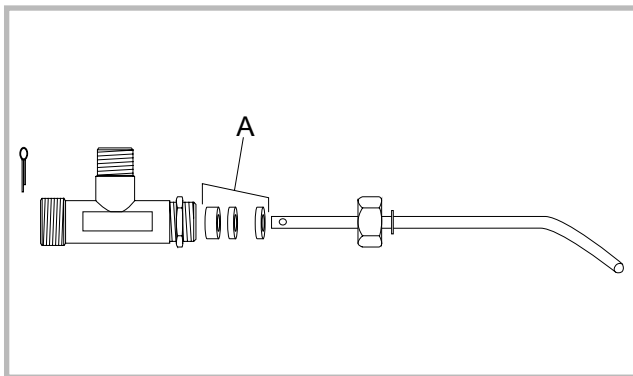

Figure 15 - The joint of the de-scaling lever
- **At least once a year / End of heating season :** Clean or replace the oil filters, the oil supply line and to change the joint of the de-scaling lever (rep. A, fig. 15, code 142889) by a professional installer.